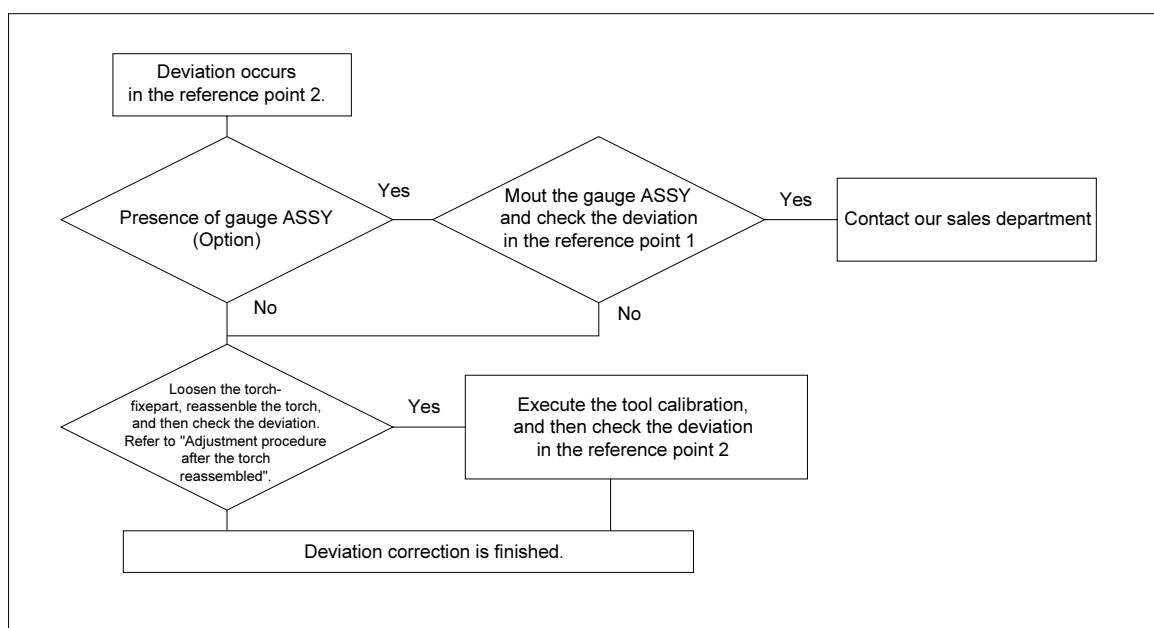

Fig.3.13 Checking procedure when the torch deviated
In the daily check, see if no deviation has occurred in the reference point (2) taught by the origin-position check program. If any deviation has occurred caused by the torch collision etc., correct it by the procedure Fig.3.13.